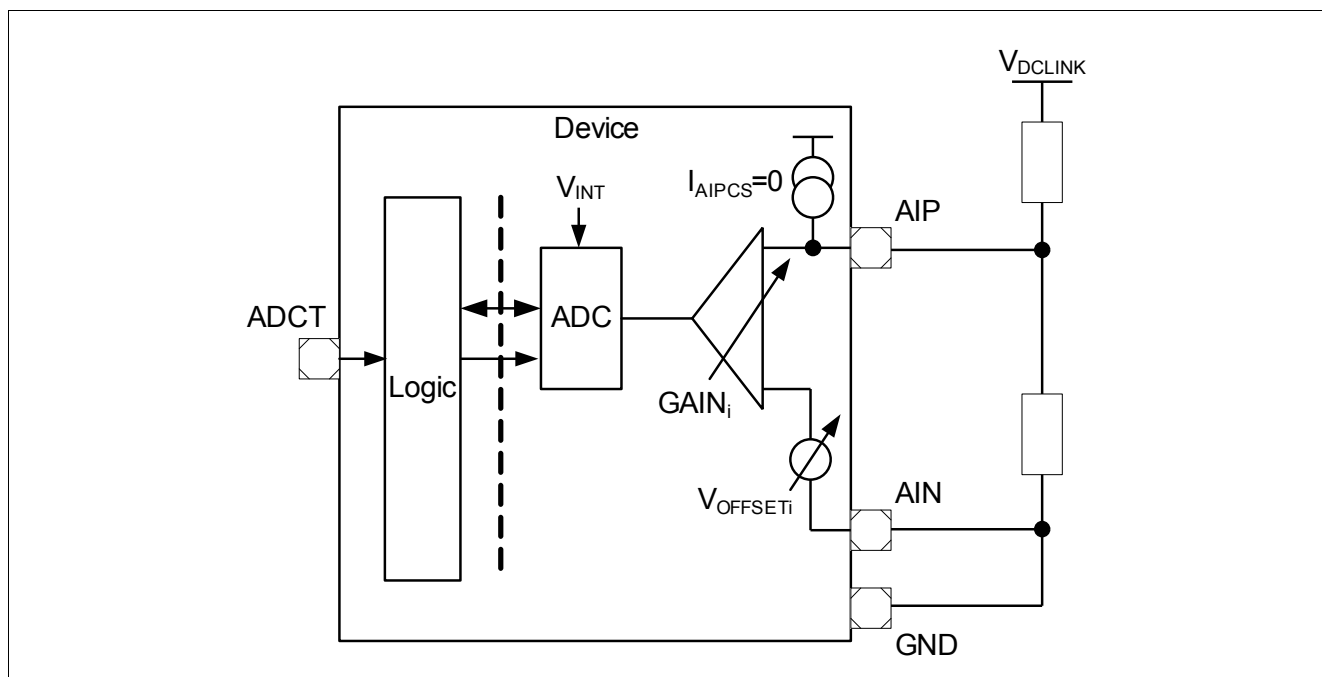

Figure 2-20 Application Example: V_{DCLINK} Measurement
- Measurement of the high voltage DC-Link or phase voltage (Figure 2-20).